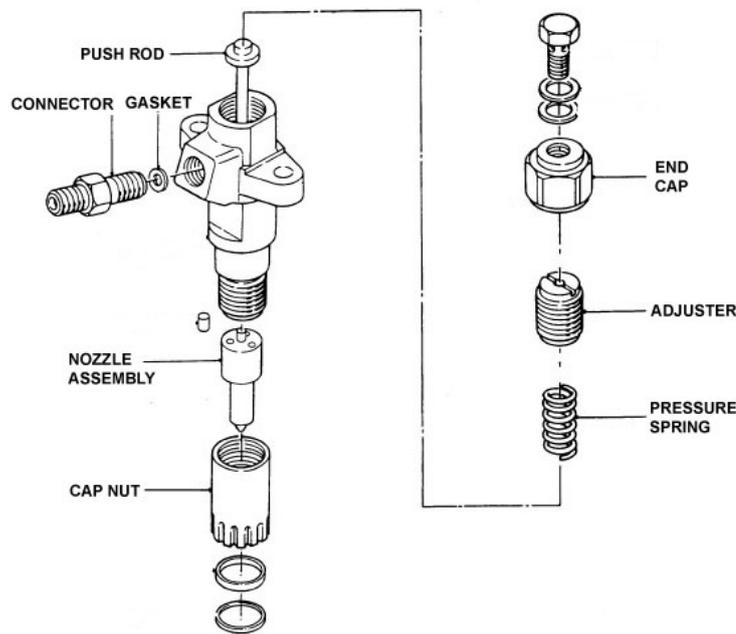

Figure 140 Fuel Injector- Exploded View
- a. Secure the injector body in a soft-jawed vice and remove the end cap and gasket (Figure 140).